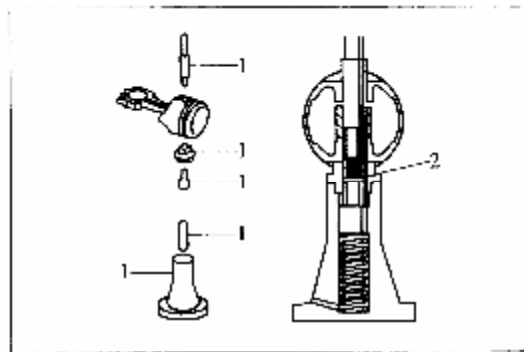
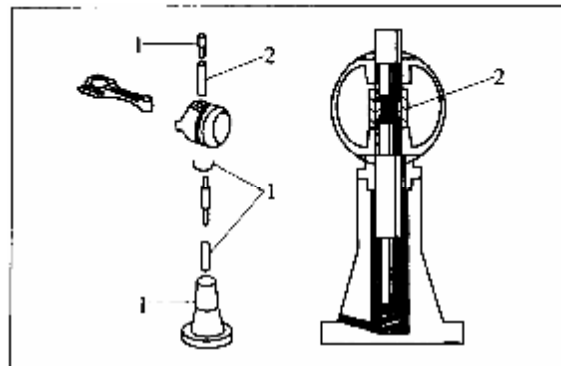

Figure 3-33 Special Tools to Dismantle Piston and Connecting Rod Assemblies
Figure 3-34 Special Tools to assemble Piston and Connecting Rod Assemblies
3.3.5 Use special tools to disassemble and assemble piston and connecting rod assemblies. The usage for special disassembling tools are as shown in Figure 3-33. The usage for special assembling tools are as shown in Figure 3-34.